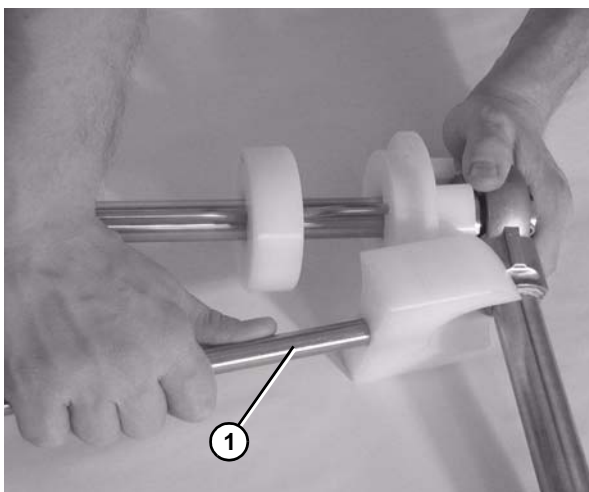

Figure 67
4. Attach the guard bar (**Figure 67, item 1**).